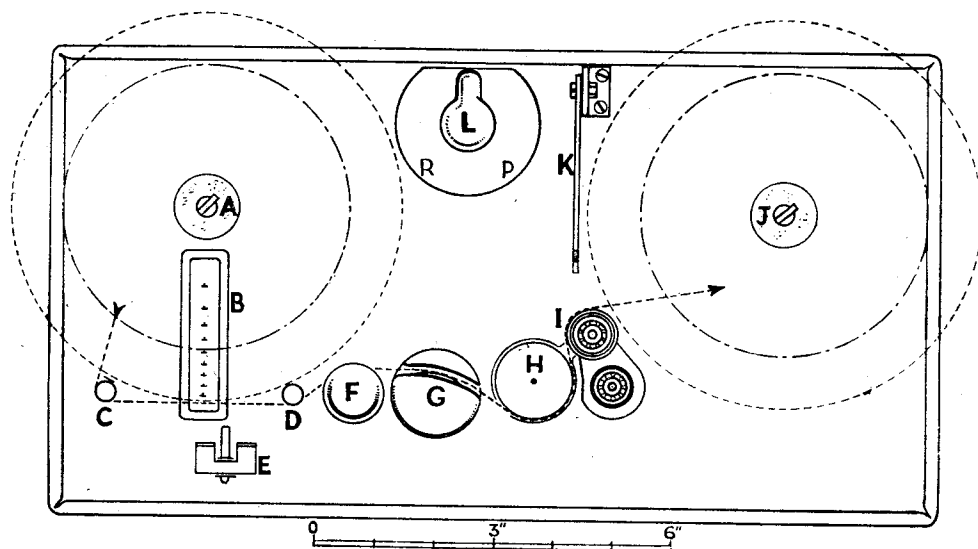

Fig. 8. Plan of deck in rewind position. The tape is indicated in the playback position
(2) The Deck
Figs. 8 and 9 show a plan of the deck from above and a reversed plan from below. In Fig. 8 the parts shown are (A) Rewind shaft, (B) Cueing scale, (C) and (D) tape guides, (E) Permanent magnet, (F) Erase head, (G) Record/playback head, (H) Capstan, (I) Pressure roller, (J) Take-up shaft, (K) Lid strut, and (L) Control knob.
It will be seen that the components of the deck have been arranged so that 7 in. reels may just be accommodated with the lid open (note pecked circles in Fig. 8) and 5 in. reels can be played with the lid closed (note chain-dot circles).